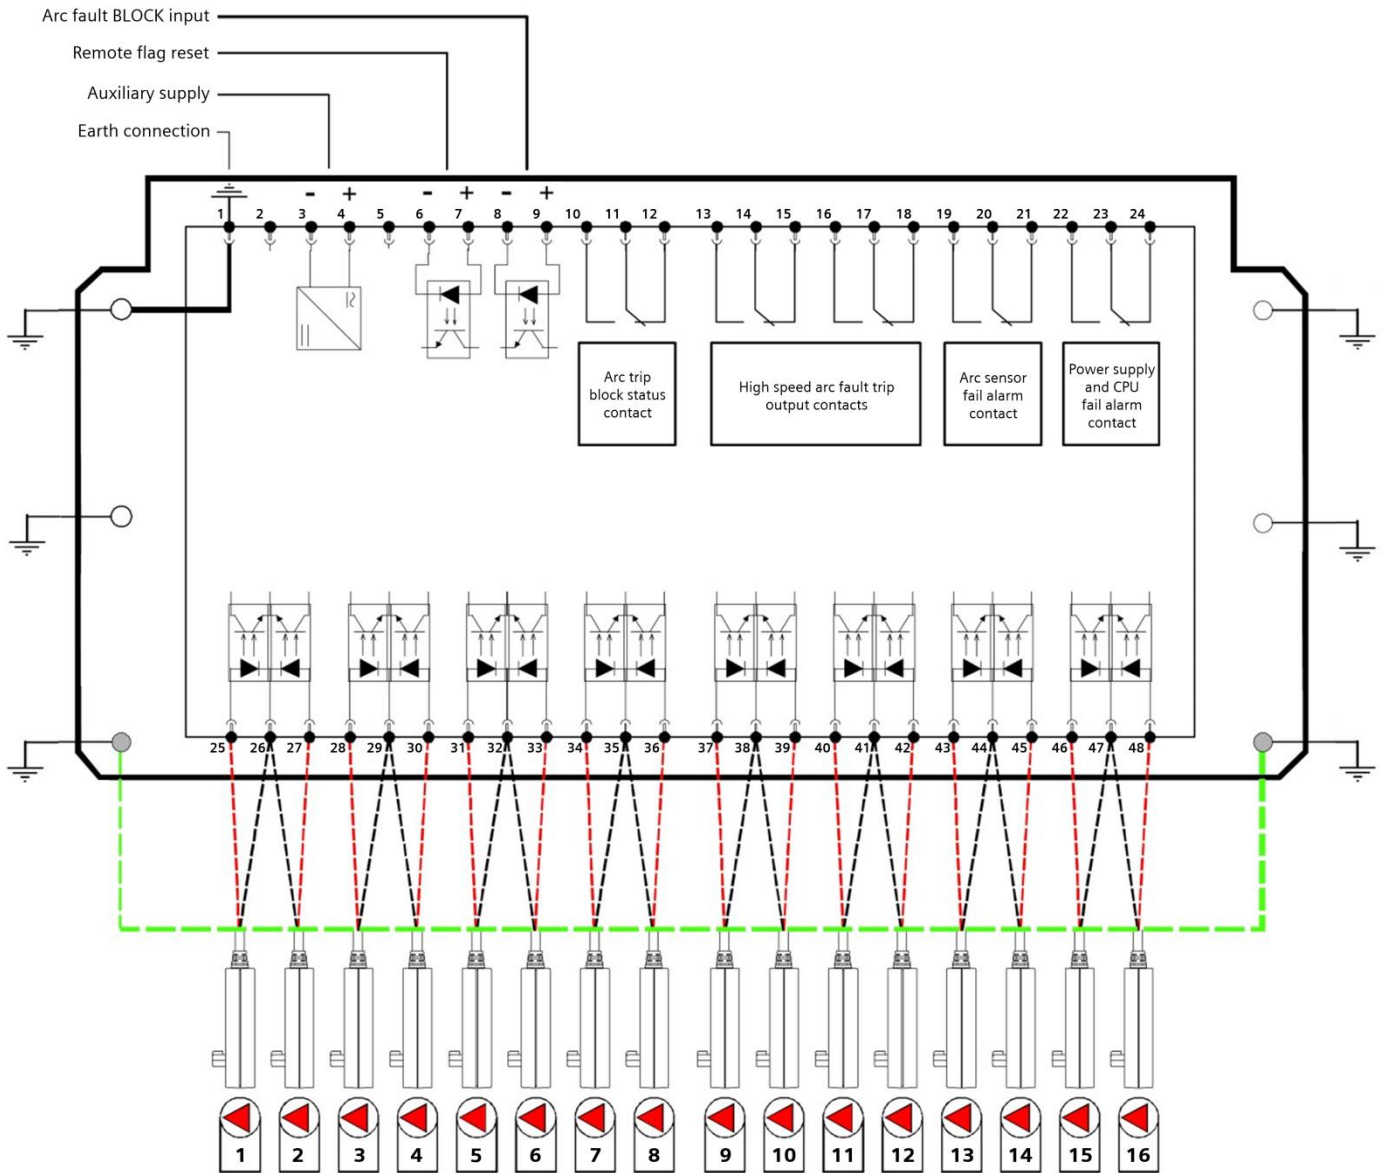

Fig28. Wiring diagram
M3 earth studs with nuts and lock washers are provided on the RA24 chassis in two (2) positions - one to the left of terminal 1 and one to the right of terminal 24 - to allow connection of the optional RA30 sensor cable shields. Refer to figure 28 for connection details.